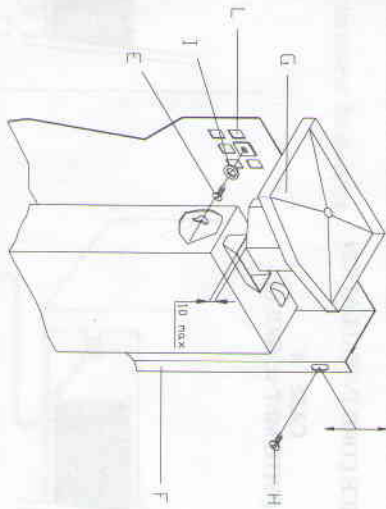

FIG. 1
2) COIN MECHANISM INSTALLATION (fig. 1):